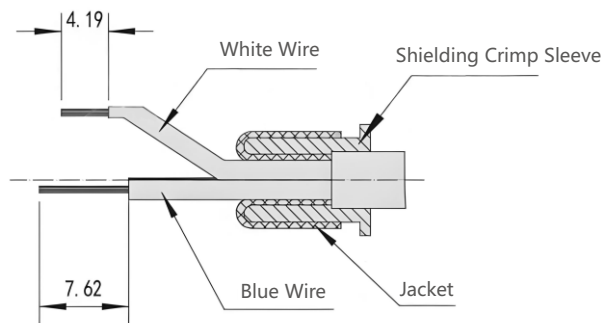

Figure3.2
②As shown in Figure 3.2, slide the shielding crimp sleeve onto the cable jacket, fit the shielding layer over the shielding crimp sleeve, then strip the internal wires as shown in the figure (you can cut off the filler near the shielding layer).